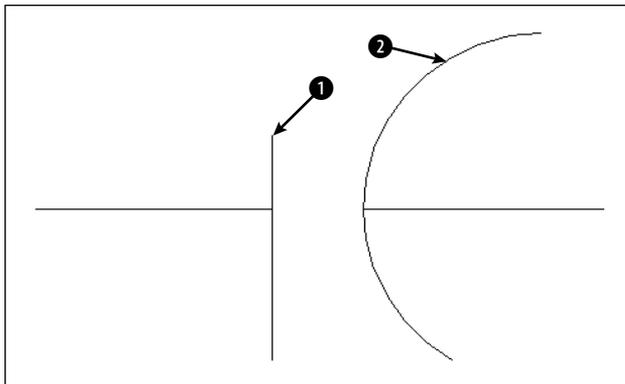

Figure 10-22: A poorly drawn capacitor symbol.
2. Save the file as ab10-07.dwg in your AutoCAD Bible folder. It is a capacitor symbol from an electrical schematic, as shown in Figure 10-22.
Select an object or [DElta/Percent/Total/DYnamic]: *Pick the line at ❶ in Figure 10-22.*
Select an object to change or [Undo]: *Pick the line at ❶ in Figure 10-22.*
Select an object or [DElta/Percent/Total/DYnamic]: *Pick the arc at ❷ in Figure 10-22.*
Select an object to change or [Undo]: *Pick the arc at ❷ in Figure 10-22.*